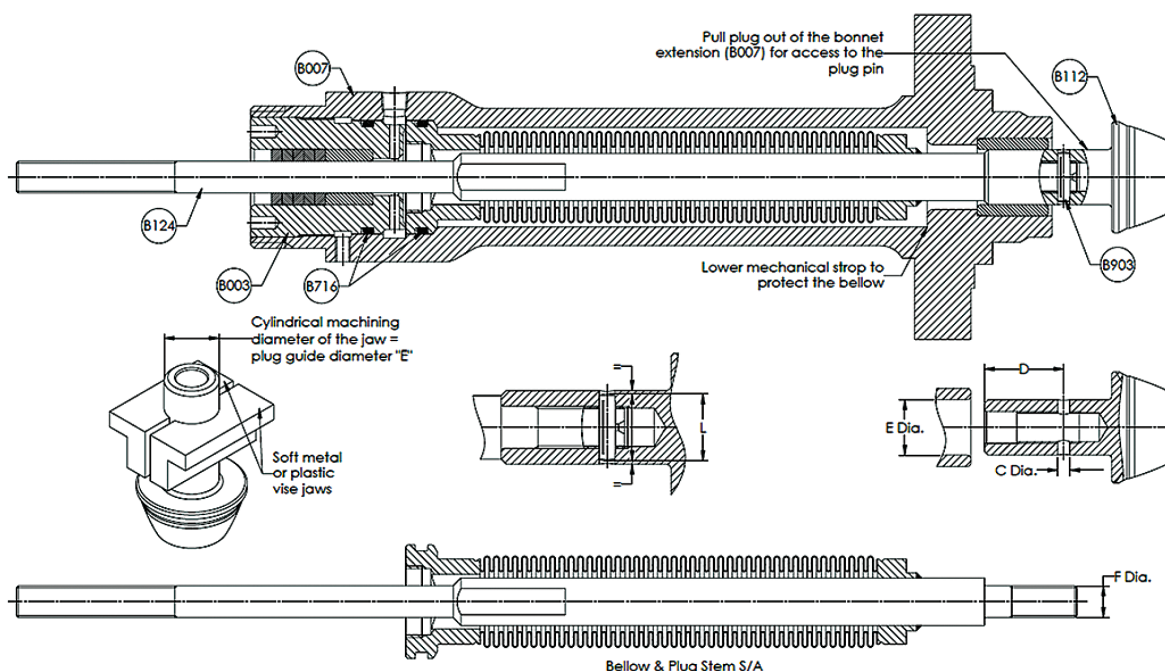

Figure 15 - Unpinning and Pinning of the Plug to the Stem
Note: Always use soft metal vise jaws to hold the plug guide surface. Failure to take this precaution could result in damage to the plug guide surface during pinning - see Figure 15 on page 24.
- **If the plug (B112) is already fully drilled**, (typical for 440C hardened stainless steel material or solid Stellite or equivalent), then drill the stem (B120) to the same diameter (Diameter C in Figure 15 on page 24) as the plug shank hole.
- Match Diameter C - see Figure 15 on page 24
- Measure Dimension D based on the plug guide diameter and stem diameter - see Figure 15 on page 24.
- Select the correct size pin based on the plug guide diameter and stem diameter - see Figure 15 below. Apply a small amount of grease on the pin (B903) and hand-assemble it into the hole in the plug.
- Press fit the pin (B903) into the hole using a hammer. Complete the pinning operation by ensuring that the pin is recessed by the same amount from both sides - see Figure 15 below.